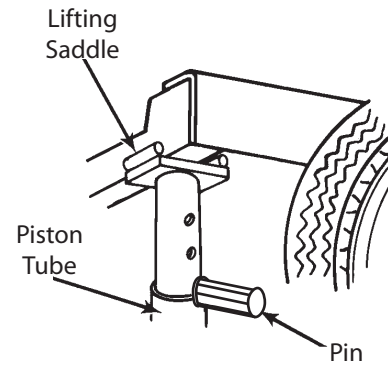

Figure 1.
5. Using the control valve lever, apply shop air until the jack saddle meets the load to be raised. Lifting saddle must cradle the lifting point by nesting around the frame, bumper, or bed. See Figure 1.